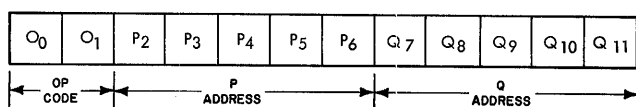

Figure 5. Instruction Format
The IBM 1620 uses a 12-digit machine language instruction divided into three parts: a 2-digit operation (OP) code, a 5-digit "P" address, and a 5-digit "Q" address. Figure 5 represents the format of an instruction as it appears in core storage. The O, P, and Q subscripted numbers are used throughout the manual.